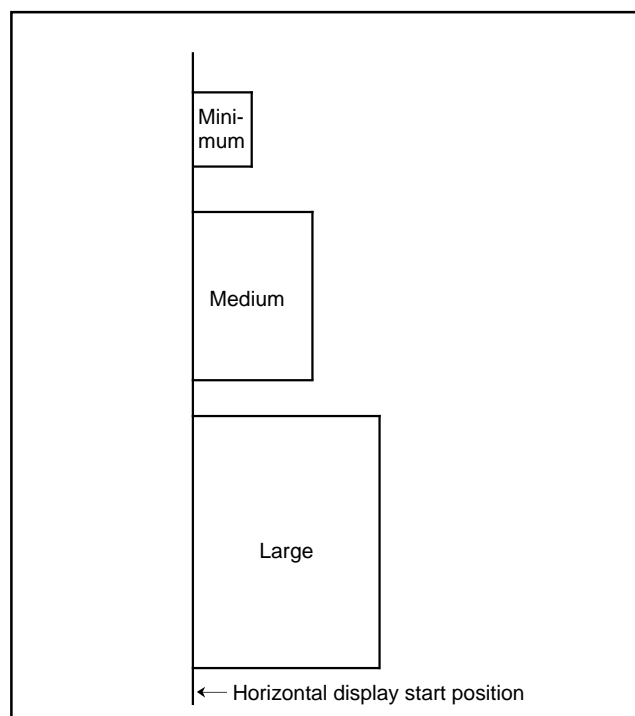

Fig. 41. Display Start Position of each Character Size (horizontal direction)
**Note:** The display start position in the horizontal direction is not affected by the character size. In other words, the horizontal display start position is common to all blocks even when the character size varies with each block (refer to Figure 41).
**(4) Memory for Display**